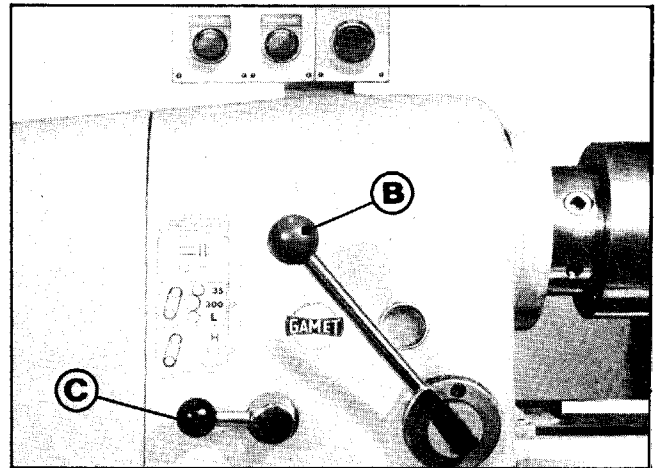

Fig. 9
The lathe spindle must rotate in forward direction when the Forward selector button is pressed and clutch lever (Fig. 9) is set to the right. To rectify incorrect rotation, interchange any two phase lines.
Speed Range is selected by lever (C), See Fig. 9. Move the lever out and up for low-speed range (35 to 300 rev/min) through the geared headstock. Move lever out and down for high-speed range (350 to 3000 rev/min) through direct belt-drive from clutch to main spindle.
Spindle Rotation: is achieved by moving lever (B) Fig. 9. Move the lever out and upward to engage the drive clutch. To disengage, move the lever left and downward to the safety-lock position. Further downward pressure on the lever in this position will operate the retarding brake.
Lever (3) is used in conjunction with the speed range selector (C of Fig. 9) to transmit drive from the end train. For coarse, multi-start or special threads set lever (C) to position L and lever 3 to the lower position — threading only. Standard fine threads to 16 t.p.i. single start may be cut with lever (C) set to position H and lever 3 to the upper position — threads and feeds.